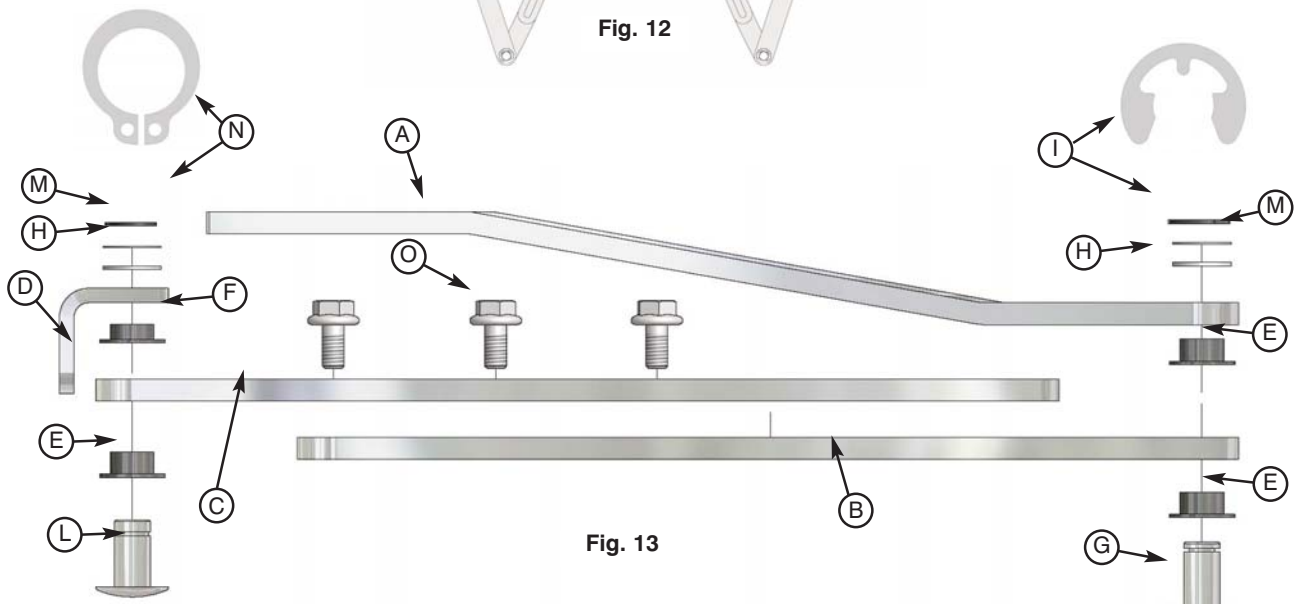

Fig. 13
Insert the 3 appropriate plastic bushings (E) into the articulated arm brackets (Fig.13 Parts A, B and C) and the plastic bushing (F) into the wing attachment bracket (D).
Insert the bracket of the arm (Fig.13 part A) in the appropriate seat on the gearmotor and fix it using the two countersunk-head screws provided.